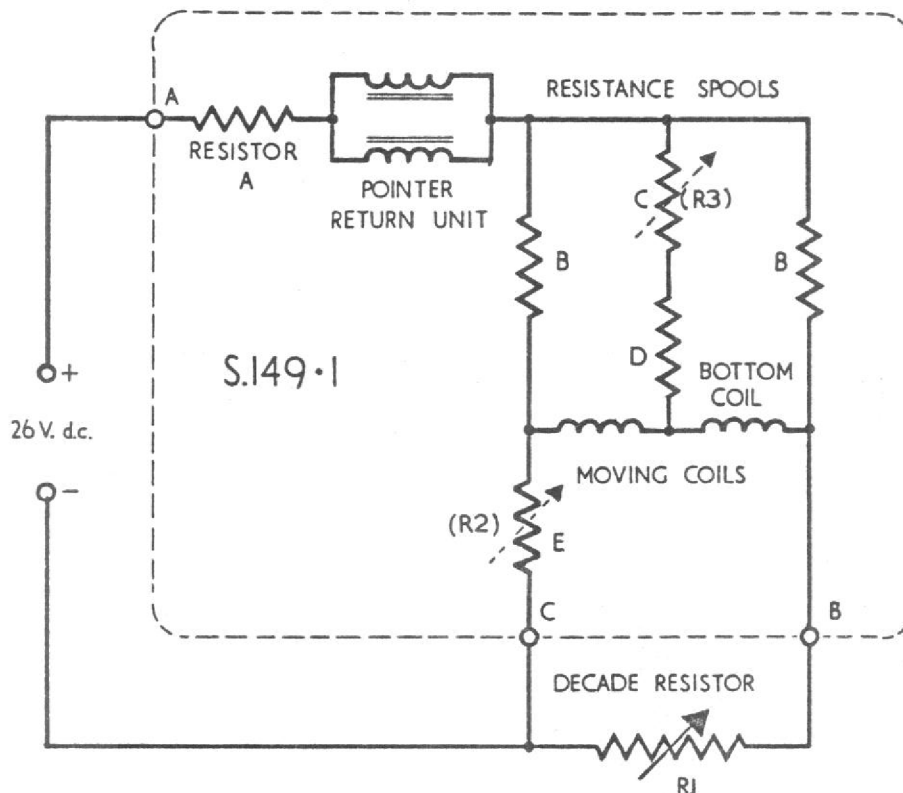

Fig. 3. Test circuit diagram. Temperature Indicator.
(1) Preparation
- (b) Connect the pre-determined spools in circuit and insert the two decade resistance boxes, R2 and R3, in place of the unadjusted spools, with a further decade resistance box, R1, in place of the resistance bulb (see Fig. 3).
(2) Procedure